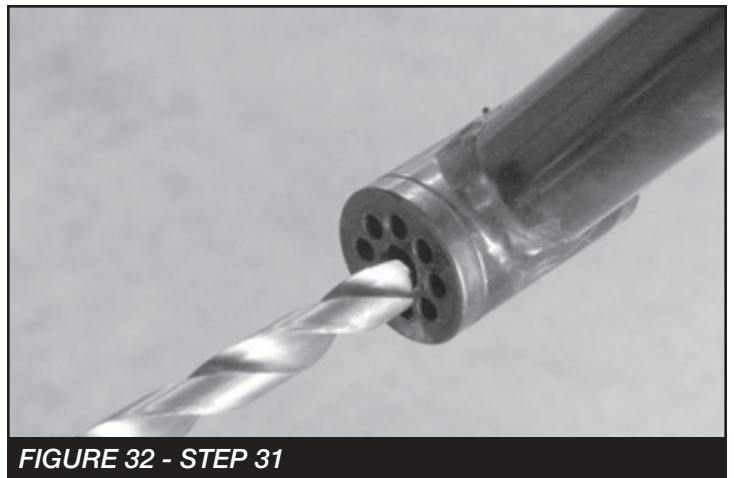

FIGURE 32 - STEP 31
31. Locate the Fabtech impact tubes (FT44017BK) Locate the Fabtech impact tube bushings (FT1044). Install the bushing into the barrels on the end of each impact tube. On one end of the driver side impact tube, you will need to drill out the bushings to 1/2". **NOTE - ONLY ON THE DRIVER SIDE AND ONLY ON ONE END. SEE FIGURE 32**